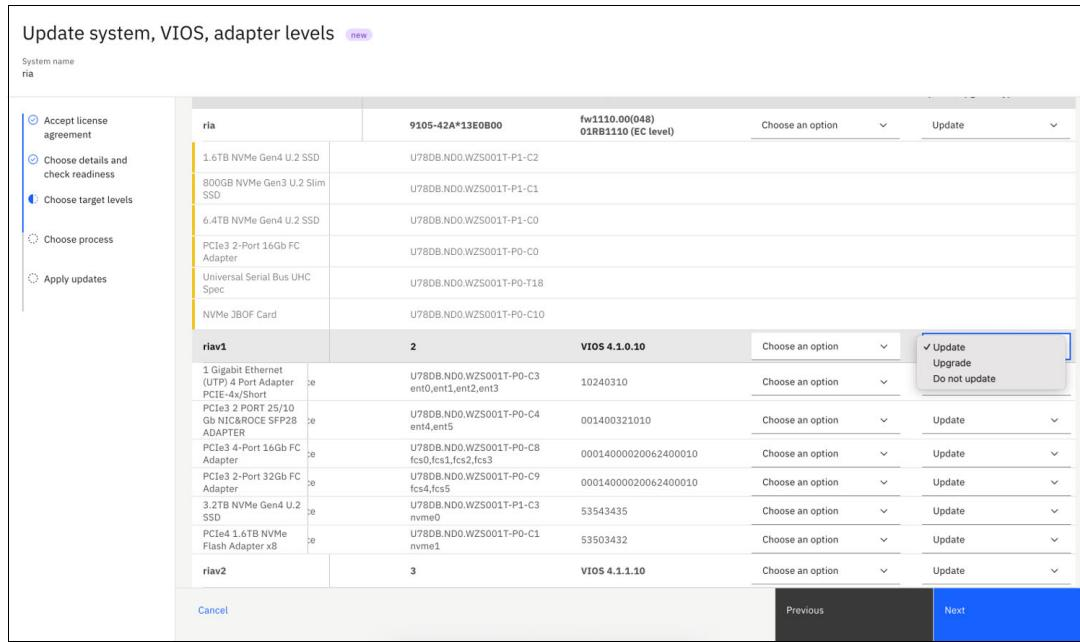

Figure 5-4 Upgrade type
2. Select “**Update/Upgrade**” type as shown in Figure 5-4.